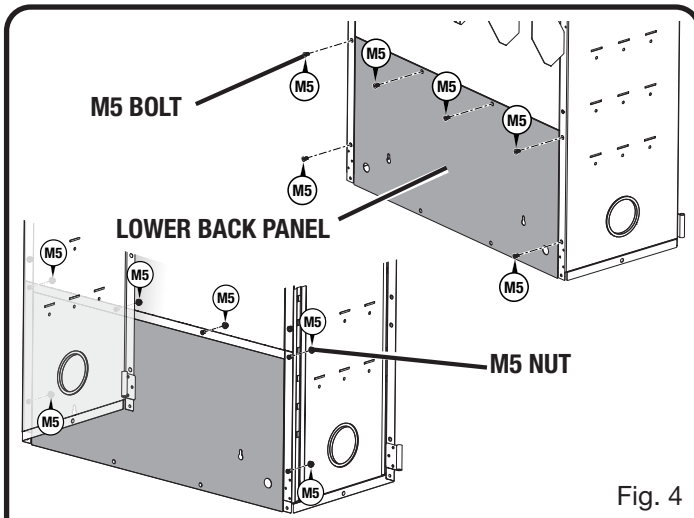

Fig. 4
- Slide lower back panel up between side panels until top edge moves behind lip of upper back panel as shown in Figure 4.
- Insert M5 bolts (6) through the back holes of the panels as shown in Figure 4. Secure with M5 nuts (6).